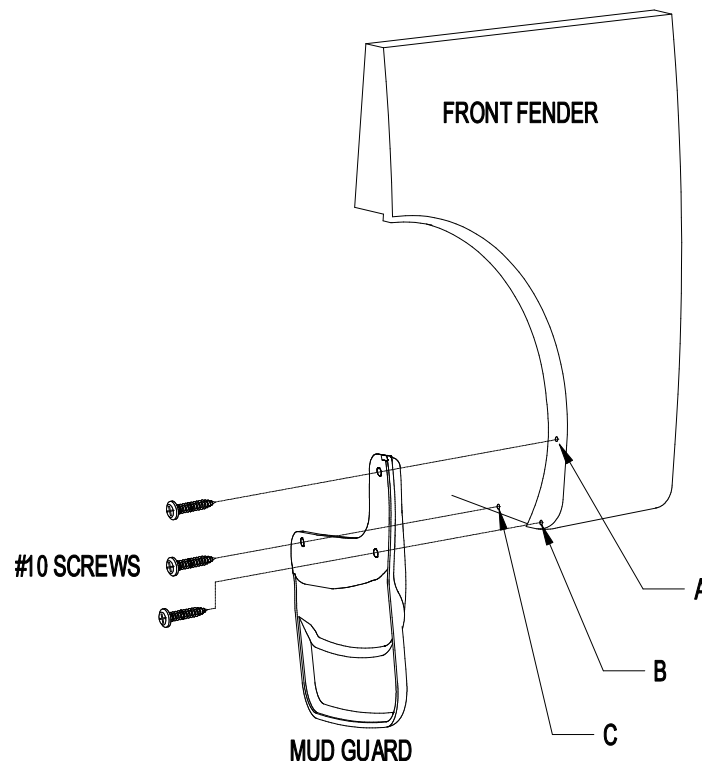

Figure 1
2. Using mud guard as a template, mark, center punch, and drill 1/8" holes at locations A, B & C (Figure 1).